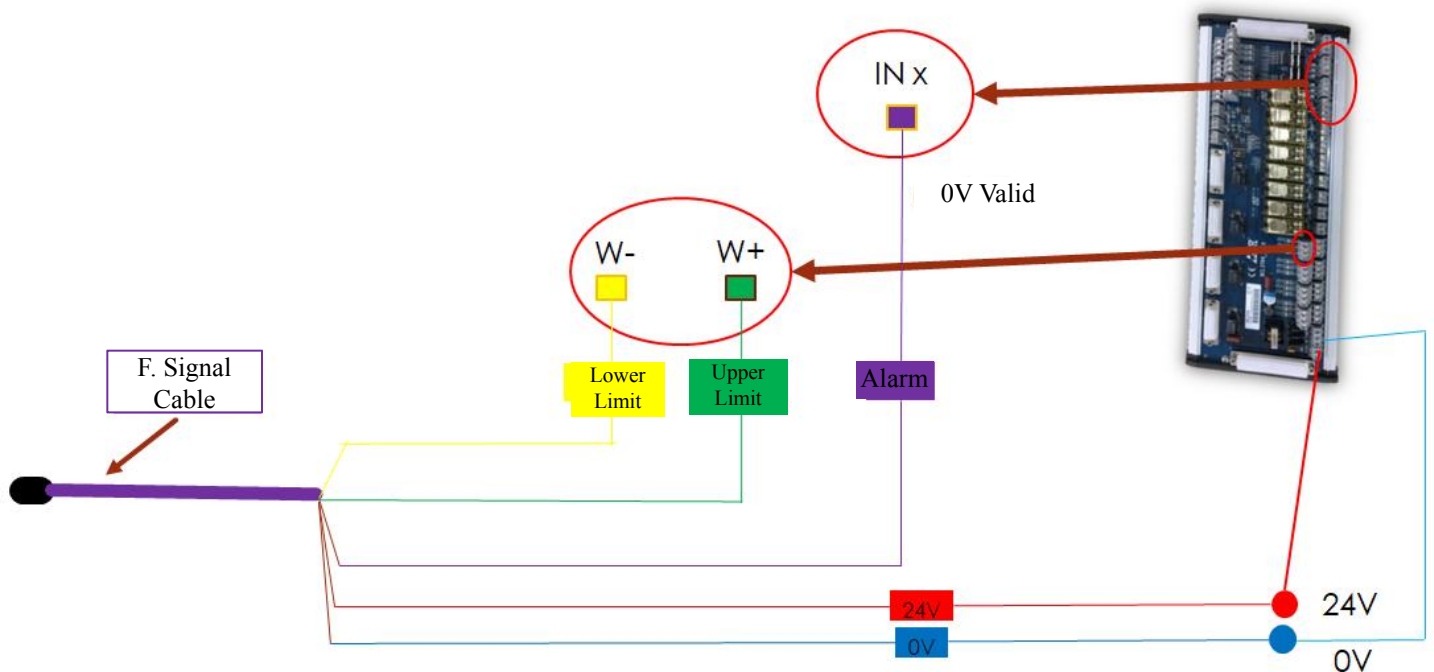

Figure 1.9
③ Signal cable wiring, as shown in Figure 1.9